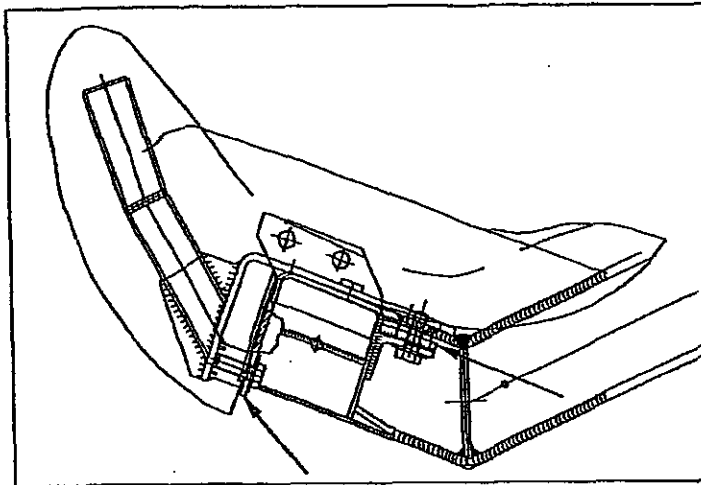

figure 3: Seat pan, mounted on the suspended seat
- 1 Visually check the seat (figure 3) for cracks. Pay special attention to possible rust formations (figure 3/arrows) at the transition area between the PUR part and the (insert) steel part. (For your information, at this location no cracks were found).